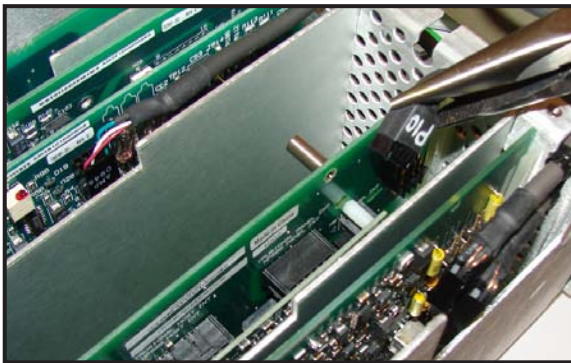

Figure 6-33
5. Disconnect the MSpO₂ cable from the connector on the SpO₂ Carrier board (See Figure 6-33).